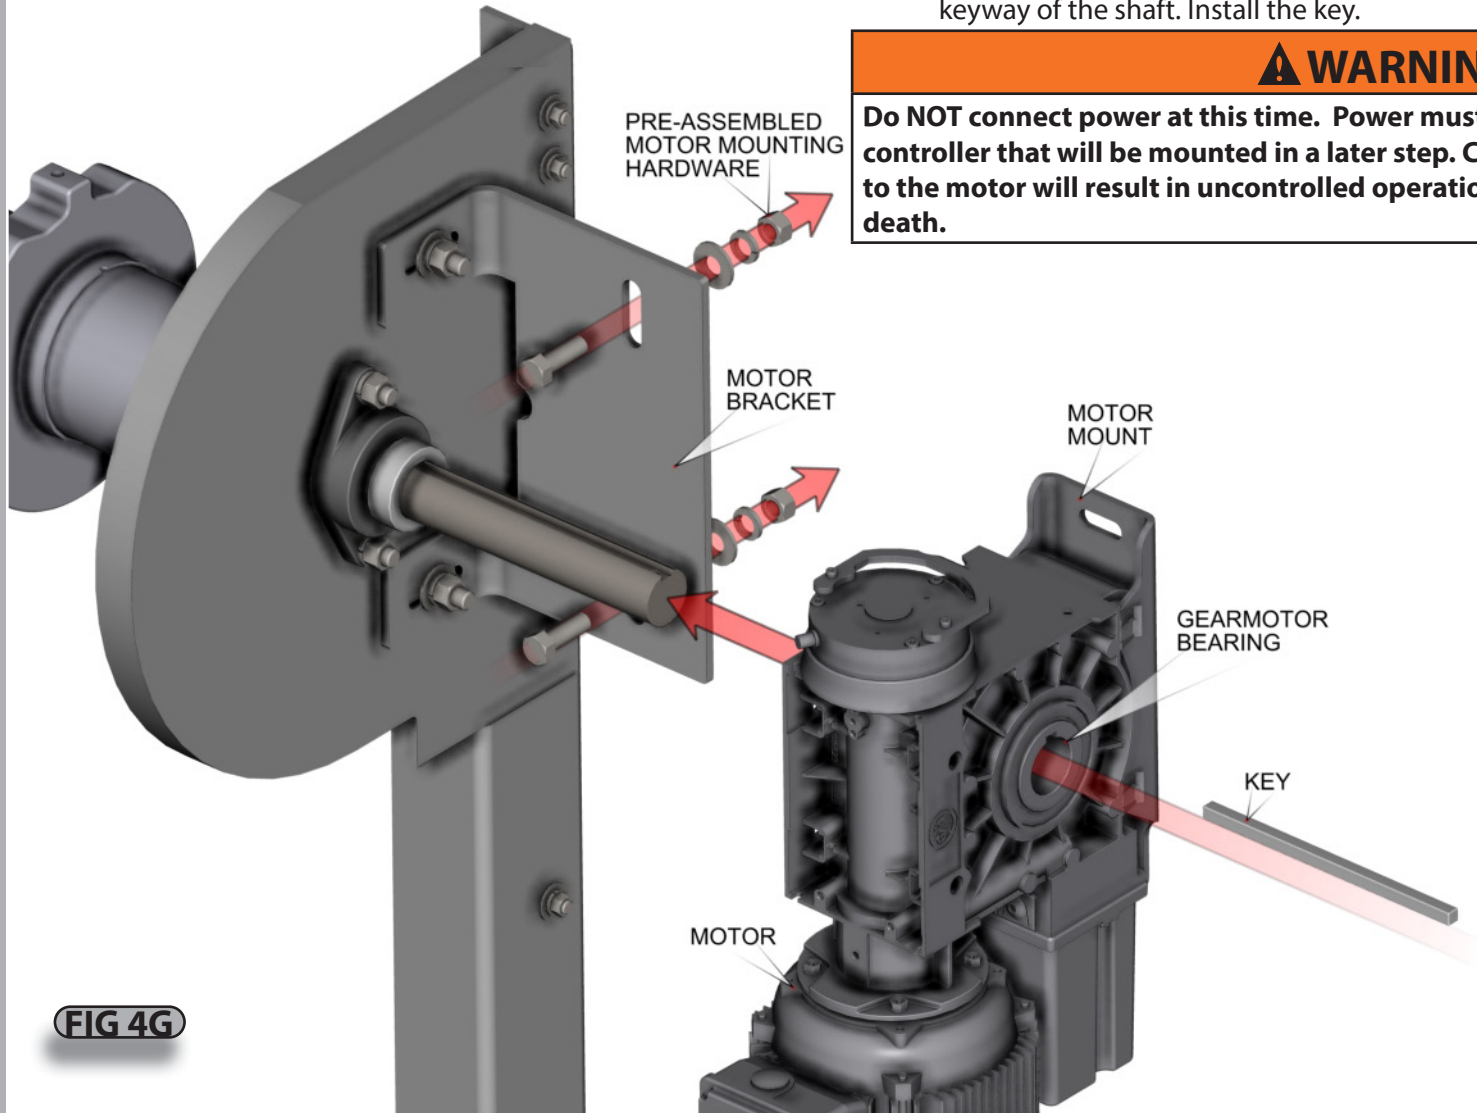

FIG 4G
- A. Remove motor mounting hardware from the motor bracket **FIG 4G**.
- C. Slide the motor onto the shaft and reinstall the mounting hardware. **FIG 4G**